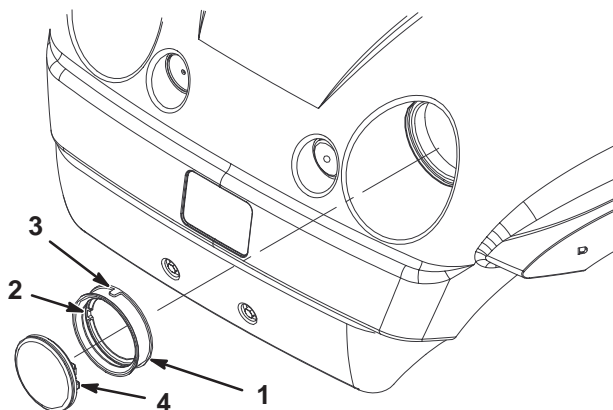

Figure 34
4. Remove the rubber seal from around the headlight (Fig. 34). Discard the headlight.
5. Align the notch on the inside of the seal with the notch on the new headlight (Fig. 34). Slide the seal onto the headlight until the seal is firmly in place.